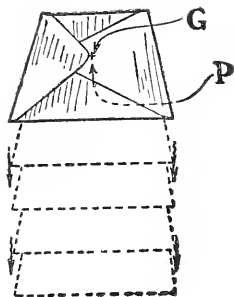
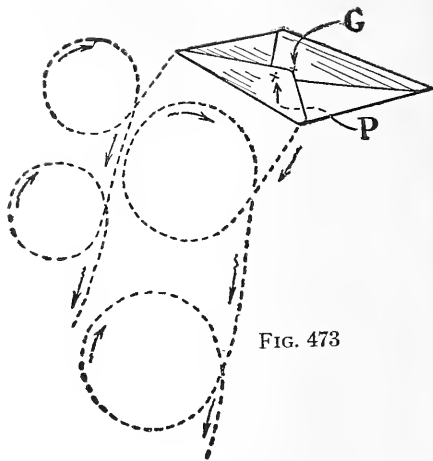

FIG. 472
FIG. 473
point. The center of air pressure varies. When the envelope is dropped straight down, flat (Fig. 472), this center of pressure (P) comes at the same point as the center of gravity (G), and there is perfect balance. When the envelope moves forward while dropping, however, the center of air pressure shifts forward, the front edge is forced up, and the envelope upsets (Fig. 473).